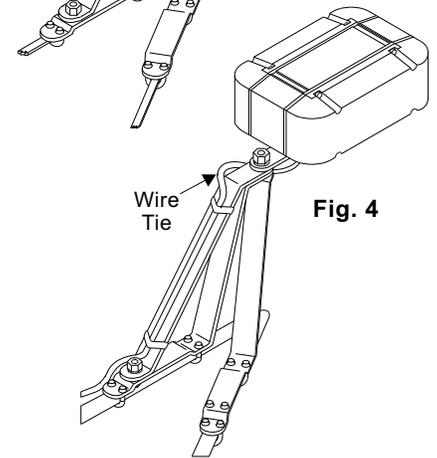

Fig. 4
1. Secure harness cable to Micro Edge mounting bracket with ties (Fig. 4).